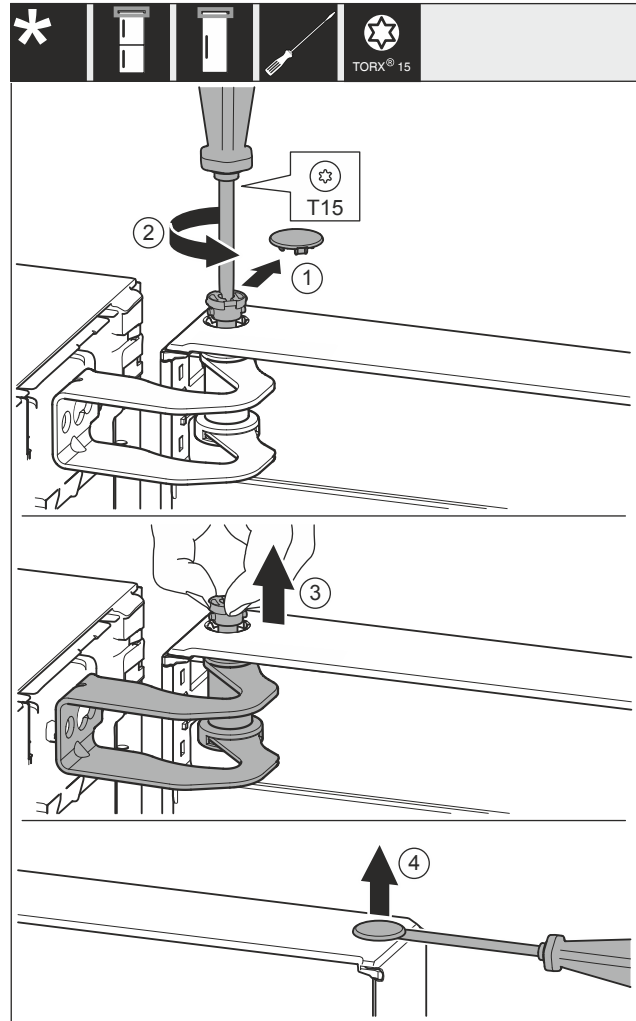

Fig. 18
- ▶ Carefully remove the cover Fig. 18 (1).
- ▶ Use screwdriver to loosen the bolts Fig. 18 (2) a little.
- ▶ Pull out the bolt Fig. 18 (3) with your fingers.
- ▶ Carefully lift and remove the cover Fig. 18 (4) with a screwdriver.